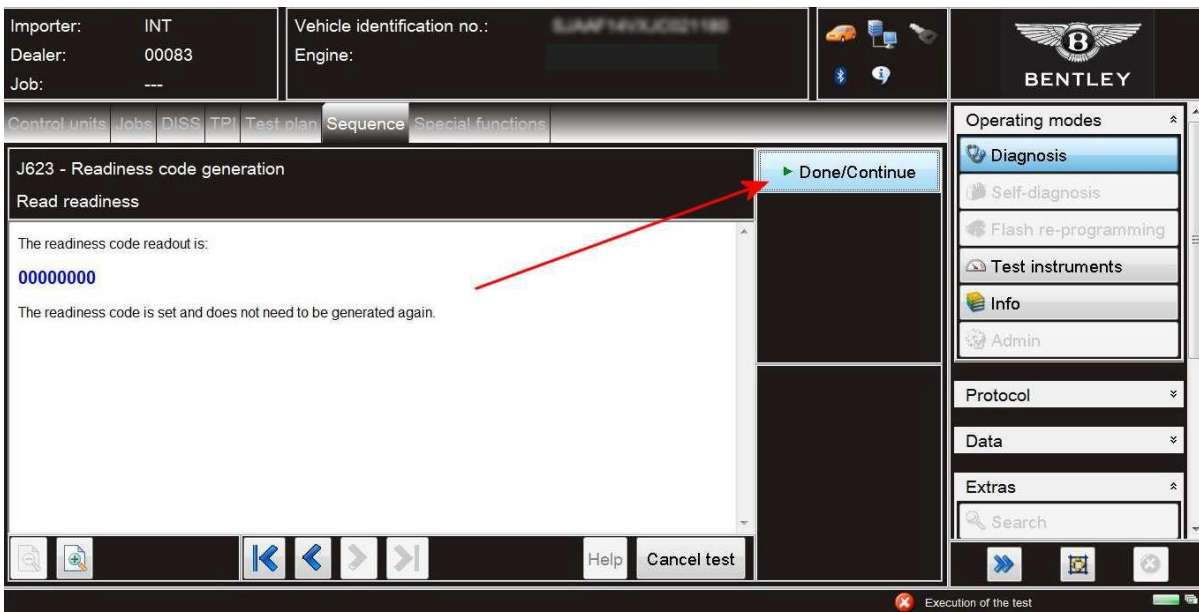

Figure 14
11) When the readiness code has been successfully generated the screen shown in Figure 14 will be evident NOTE: If the screen is not displayed repeat the Readiness code test